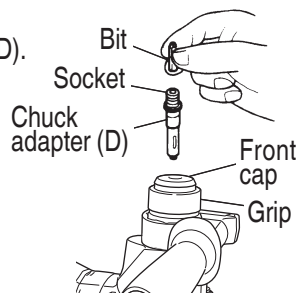

Fig. 23
4. When driving machine screws (Fig. 23)
5. When driving wood screws (Fig. 23)